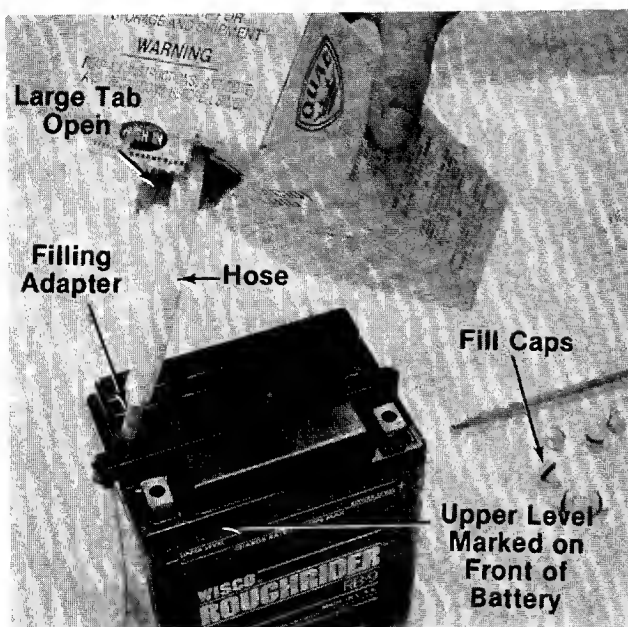

FIGURE 5.
6. Pull out hose from package and hold upright. Squeeze hose forcing all acid back into package. Cut off tip of hose and insert filling adapter. See figure 5.
7. Fill each cell to upper level marked on front of battery. Replace fill caps on battery. See figure 5.